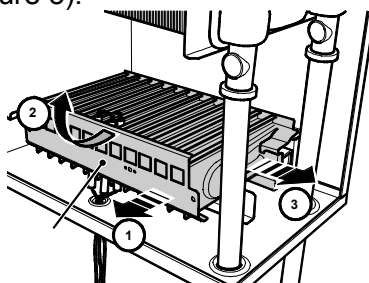

Figure 5
- 6) Remove the burner moving it to the left, rotating it upward and then pulling it outside the combustion chamber (follow the arrows on Figure 5).